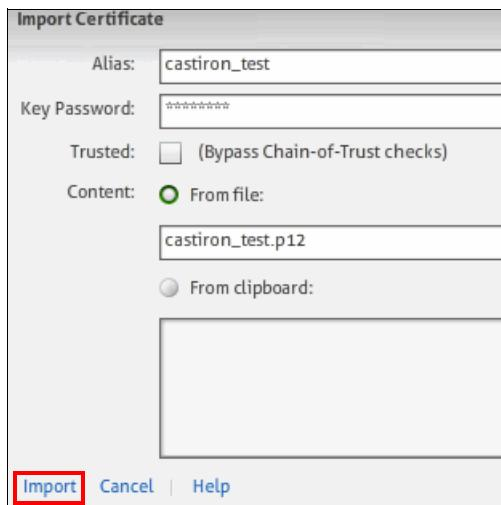

Figure 5-39 Import options for a certificate to be placed into Key Store
- Specify the certificate alias, the password, and the file to import, as shown in Figure 5-39. If the certificate is not yet signed by a trusted CA, select the **Bypass Chain-of-Trust checks** option. Click **Import**.